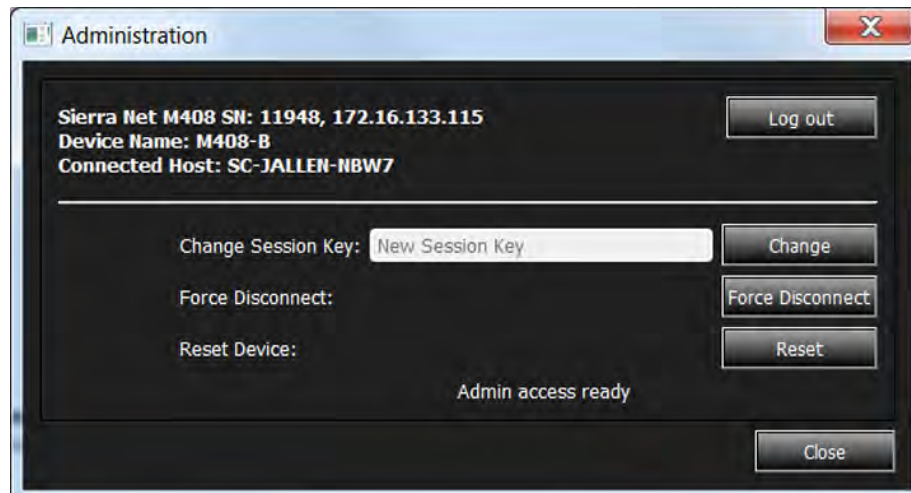

Figure 2.57: Administration Functions
2. Click **Login**. The Administration Functions dialog box appears (Figure 2.57), which allows you to take control of the Analyzer from its current user.